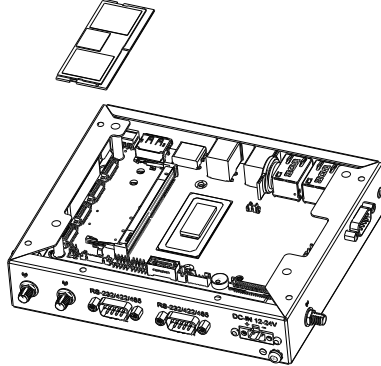

Figure 3-2-1
This product comes with one 262-pin DDR5 SO-DIMM slot as shown in Figure 3-2-1. When installing the memory module, please note the following two points:
2. During installation, align the notch on the memory module with the notch on the slot before firmly inserting it, as shown in Figure 3-2-1